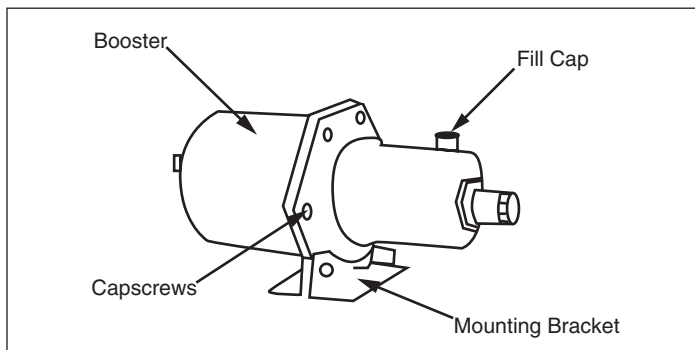

Figure 1
4. Install four mounting screws through the bracket and into the mounting plate (figure 1).